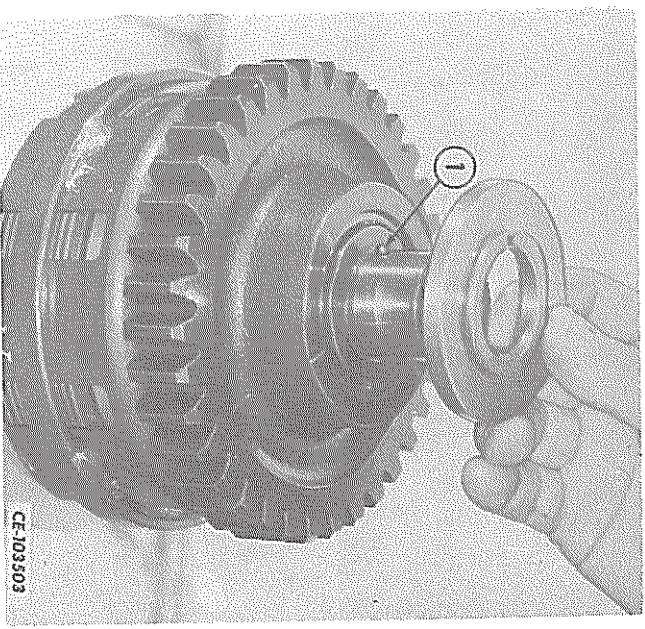

FIG. 69 – Installing the First Speed Gear Thrust Washer
28. Install the thrust washer on the shaft so the slot engages the dowel pin (1, Fig. 69).